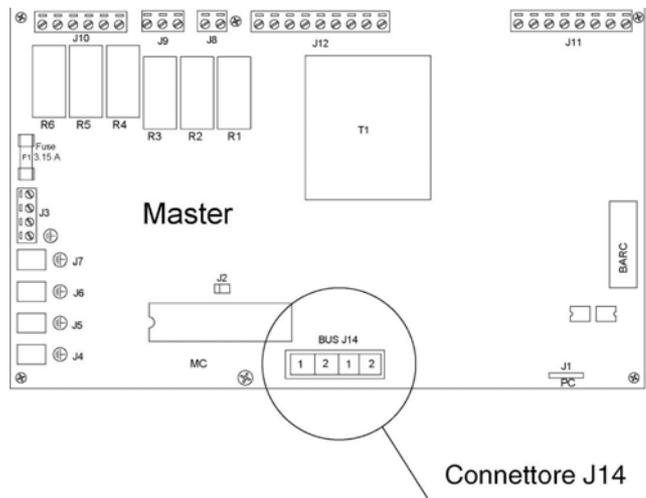

Figure 25
- a. Disconnect the 4-pole connector J14 from the Master card (see Figure 25);